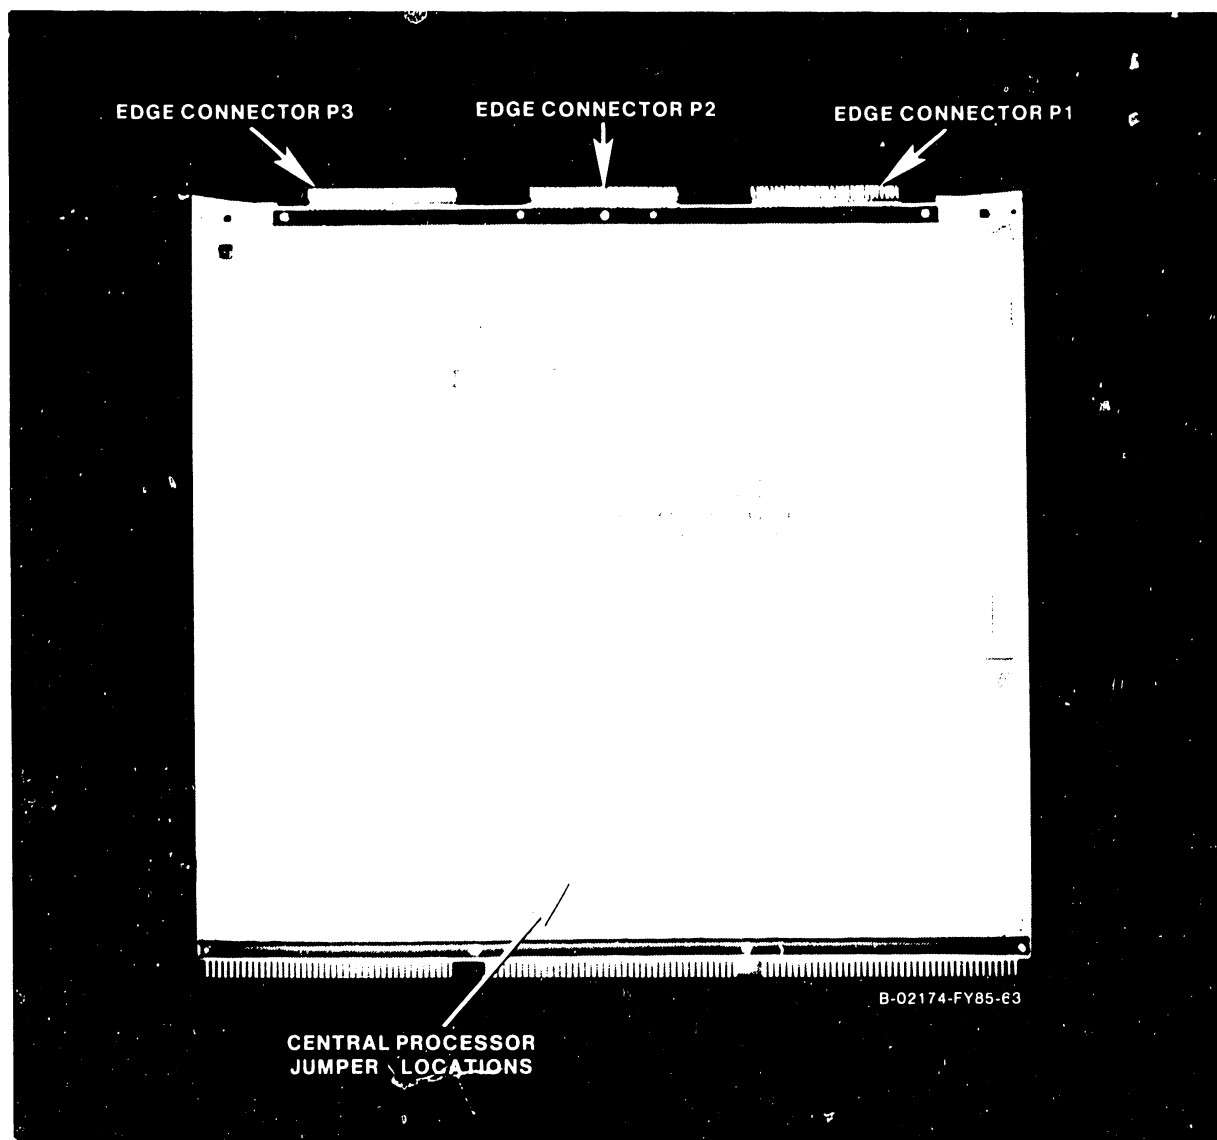

Figure 5-9. Central Processor (CP7) Printed Circuit Board
1. Remove the 210-8699 Central Processor PCB (figure 5-9) from Mother-board slot 2 using those procedures given in 5.5.1 through 5.5.1.1 which apply. When lifting the snap-lock tabs, be careful not to damage the top corner components on the CP7 board.